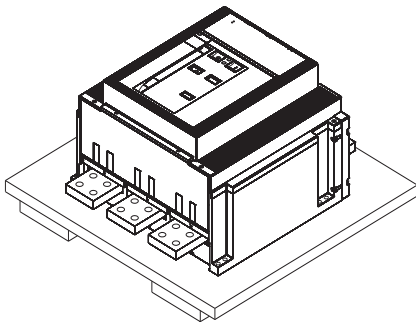

Fig. 4
- Place the circuit breaker and any fixed part on a horizontal surface, not in direct contact with the floor but on a suitable support (Fig. 4).